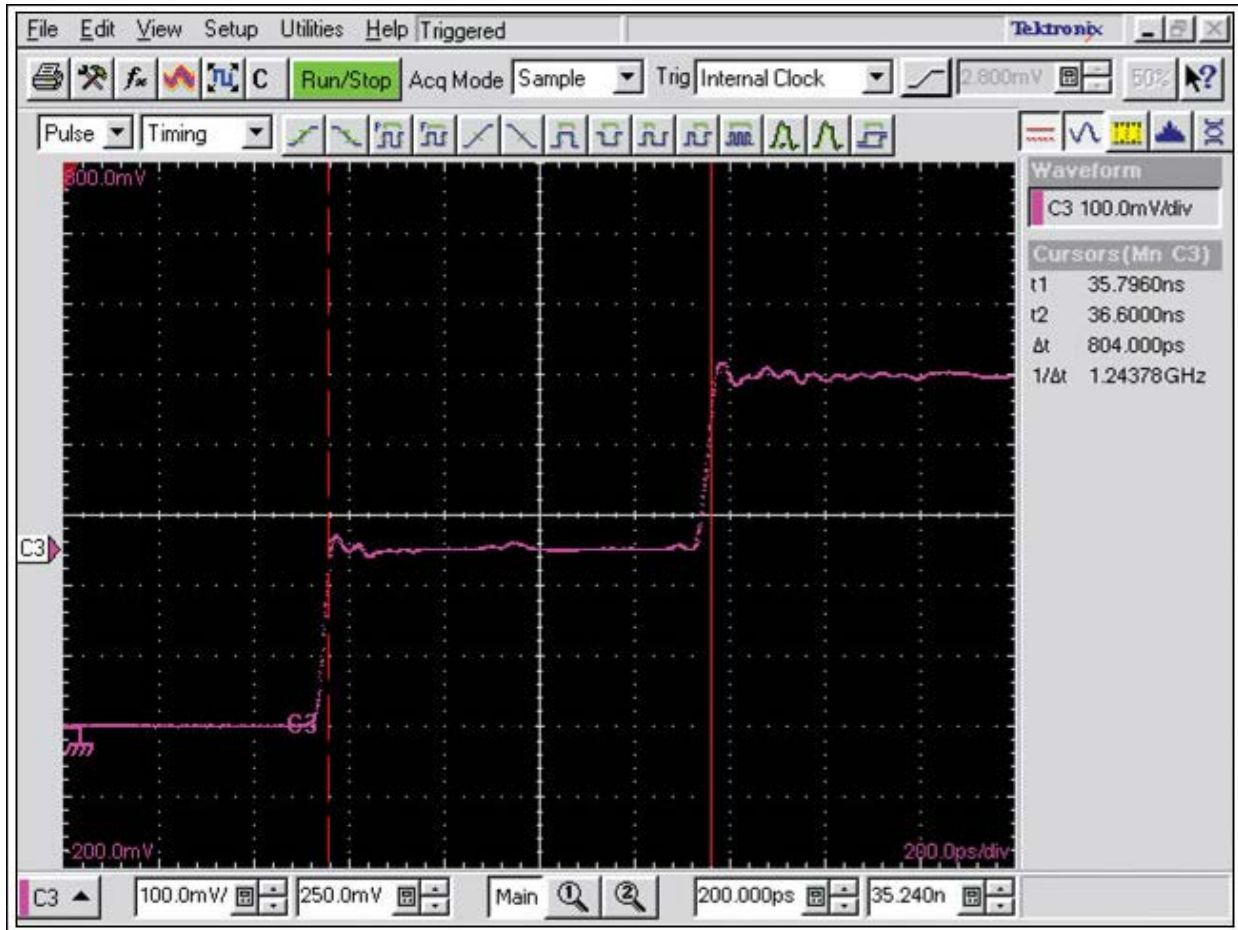

Figure 6. CSA8000 TDR of a 2in SMA cable.
Step 1. Measure the delay of a 2in SMA cable that attaches the DUT1 node to the CSA8000 vertical input (Figure 6).